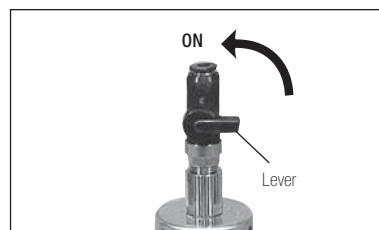

Fig. 7
- (1) Shake PANA SPRAY Plus well.
- (2) Turn the ON/OFF valve lever to the ON position. (Fig. 7)